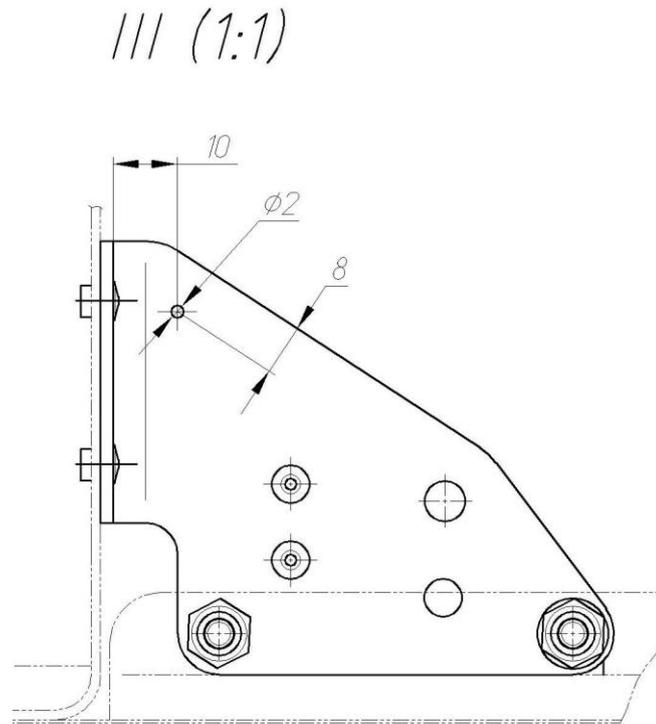

Fig. 4
3.3.1 Drill  $\varnothing 2$ mm holes for safety wire (see fig. 4) on both sides of the additional supports of the control sectors. Remove the chips.